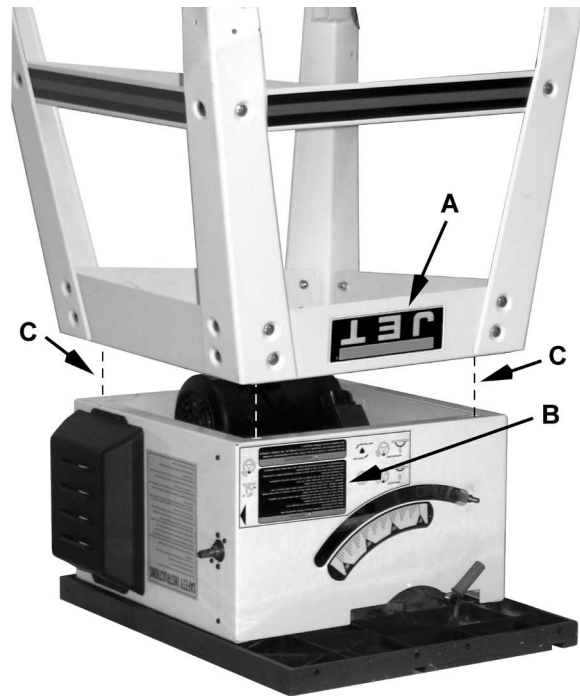

Figure 3
1. Turn the stand upside down and place onto the table saw (Figure 3)